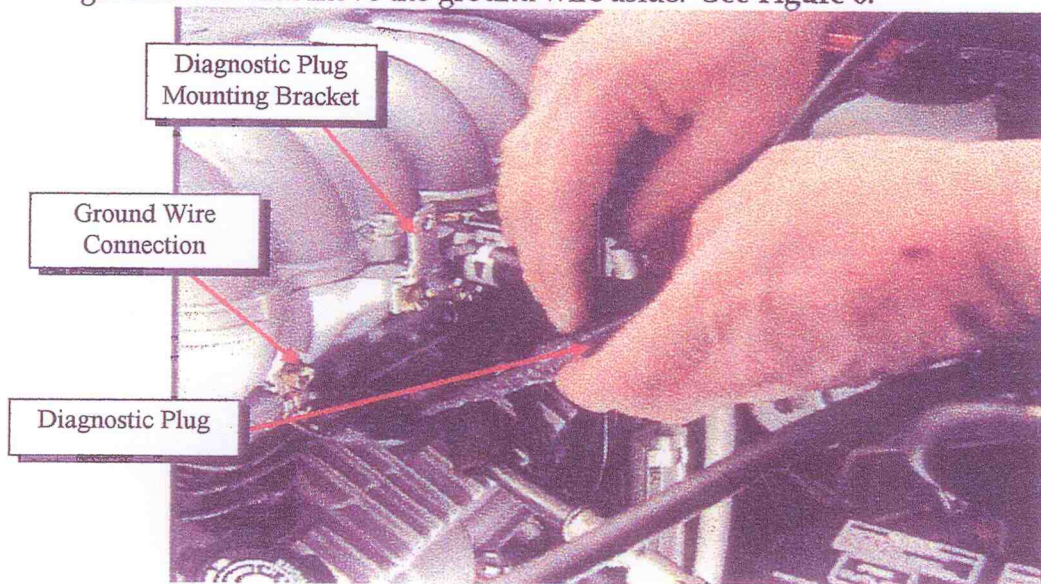

Figure 6.
9. Remove the diagnostic plug from the mounting bracket on the left side of the engine. Set it aside. The plug does not need to be disconnected from the wiring harness. Remove the bolt and bracket which holds the diagnostic connector to the stock manifold and save for reassembly. Remove the bolt holding the ground wire and move the ground wire aside. See Figure 6.